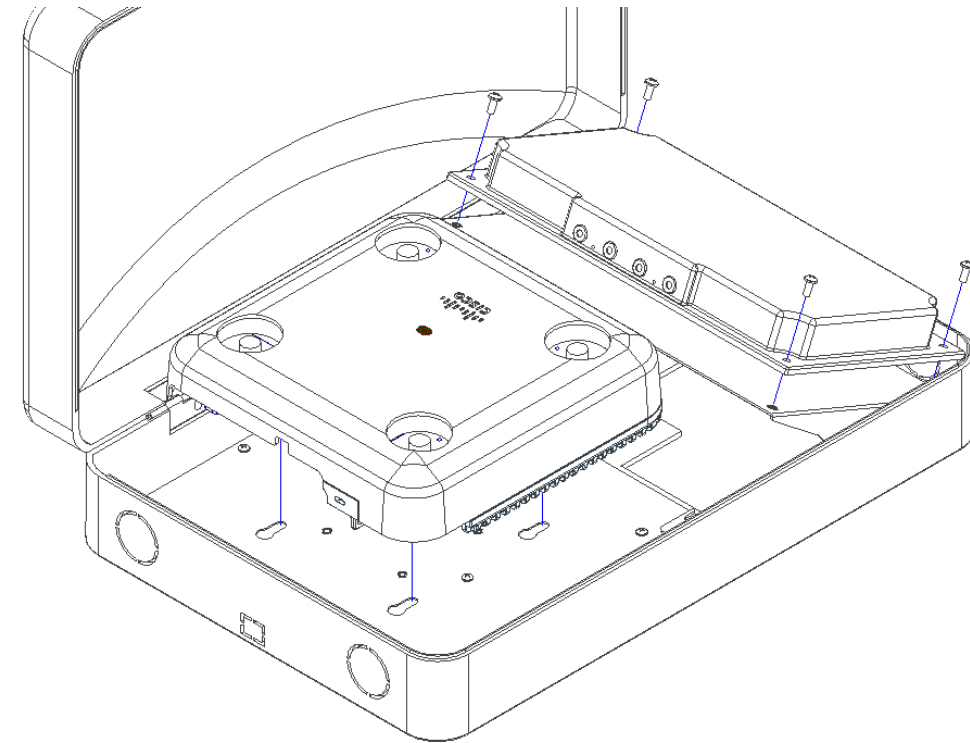

Figure 3 - Cisco AP and Antenna Installation
Step 4 – Fasten the Cisco AIR-ANT2566p4W-R to the antenna bracket using the supplied #8-32 x 3/8 screws and attach the Cisco AP by sliding the feet into the keyhole slots or fastening the AIR-AP-BRACKET-2 with the supplied #8-32 x 1/4 screws (Figure 3).